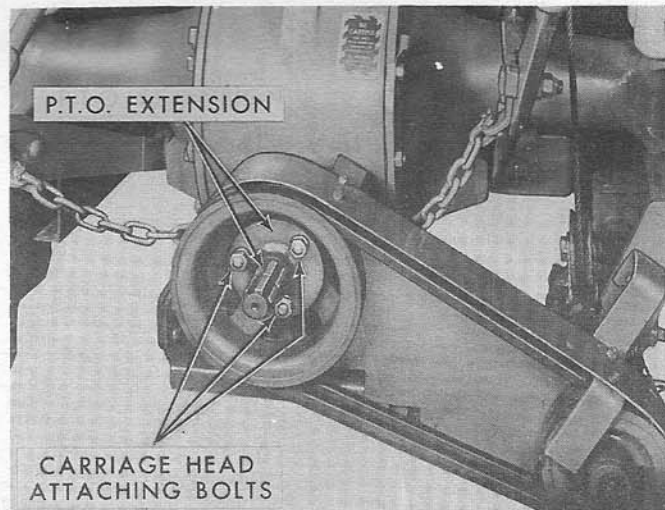

Figure 31
2. Install the carriage head attaching bolts as shown in Figure 31. Tighten the nuts evenly and alternately.